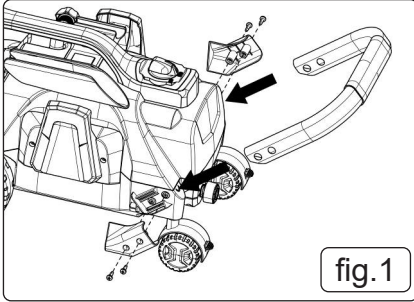
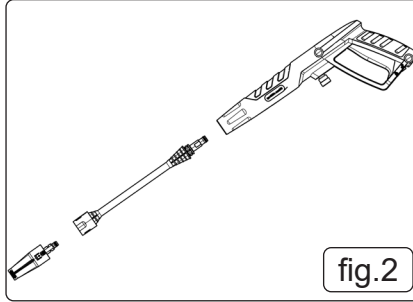

fig.1
fig.2
- 5.2. Install the handle (fig.1) and spray wand (fig.2)